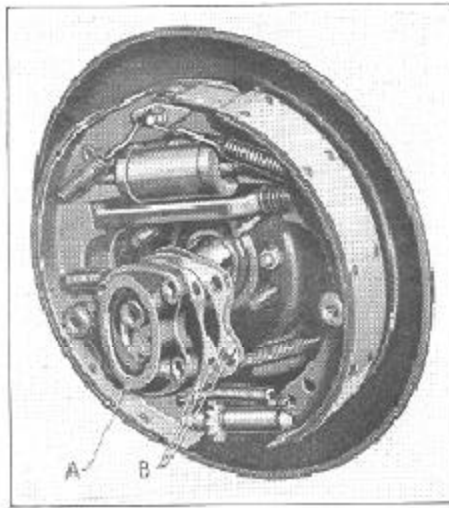

Figure 10
To adjust rear wheel bearings, jack up rear axle and remove both rear wheels and hubs. Remove the four nuts from bearing cap (A), Figure 10, and push the bolts out of the backing plate to permit removal of the bearing cap without disturbing the hand-brake operating link. By removing shims (B) under the cap the end play of the axle shaft is decreased. Total play between axle shafts should be from .005" to .010", which is perceptible by pulling shaft in and out with the hand.